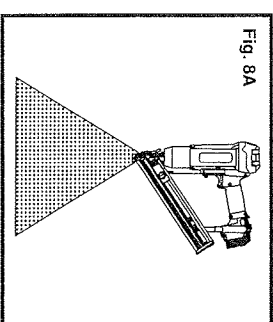

Fig. 8A
19. KEEP HANDS AND BODY PARTS away from area shown in Fig. 8A, to avoid injury.